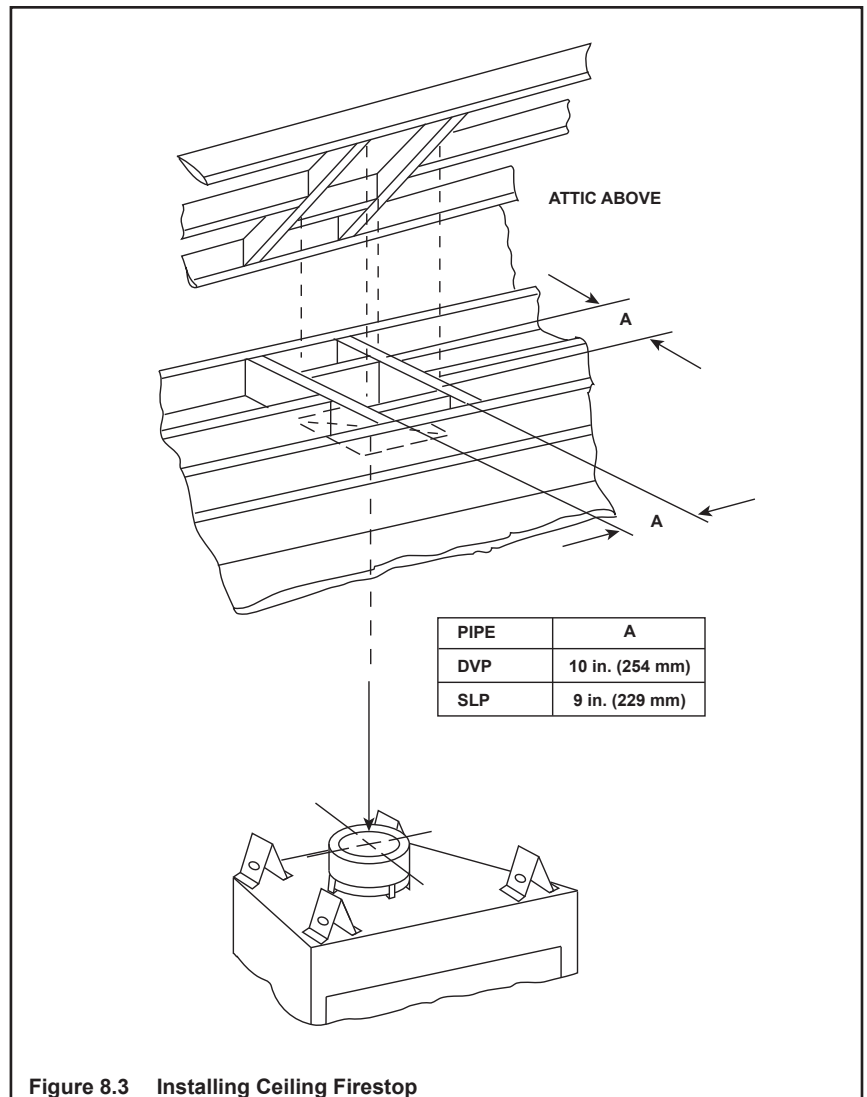

Figure 8.3 Installing Ceiling Firestop
- DVP Pipe only - Frame an opening 10 in. by 10 in. (254 mm by 254 mm) whenever the vent penetrates a ceiling/floor (see Figure 8.3).
- SLP Pipe only - Frame an opening 9 in. by 9 in. (229 mm x 229 mm) whenever the vent penetrates a ceiling/floor (see Figure 8.3).